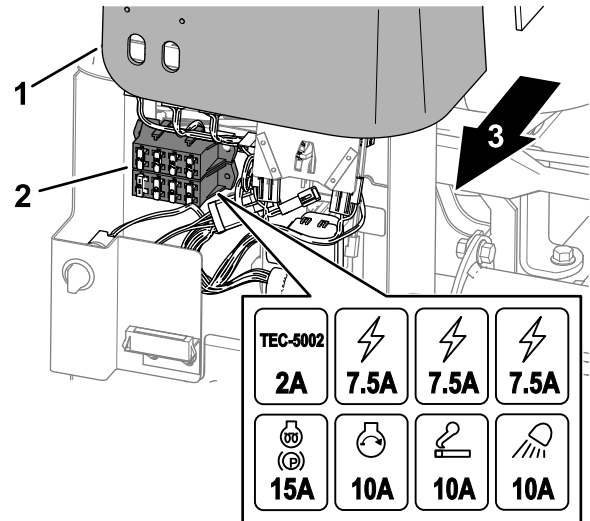

Figure 68
1. Lift the cover from the control arm (Figure 68).
2. Locate the open fuse in the fuse holder or fuse block (Figure 68).
4. Assemble the cover onto the control arm (Figure 68).